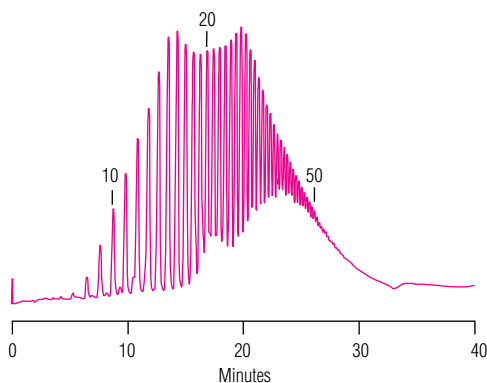

Figure 3. Chromatographic analysis of purified inulin.
Chain length distribution is an important parameter in starch characterization. HPAE-PAD technology featuring the Dionex CarboPac PA1 column delivers single-residue resolution of linear polysaccharides up to a degree of polymerization (DP) of at least 60. Figure 3 shows the chain length distribution of a sample of purified inulin using the Dionex CarboPac PA1 column. Commercial inulin products have DPs that have been tailored for a particular end use; therefore, it is important to determine the chain length distribution during product development and production and for quality control of the end product. Figure 3 illustrates the excellent resolution that can be achieved for DP values up to 50 or more for purified inulin.